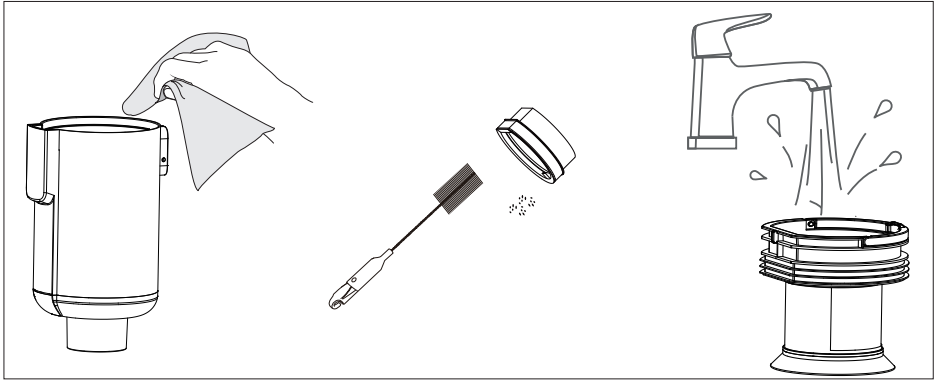

Fig. 25 – Cleaning the dust container and dust filter
- ▶ Clean the dust container with a damp cloth (**see Fig. 25**).